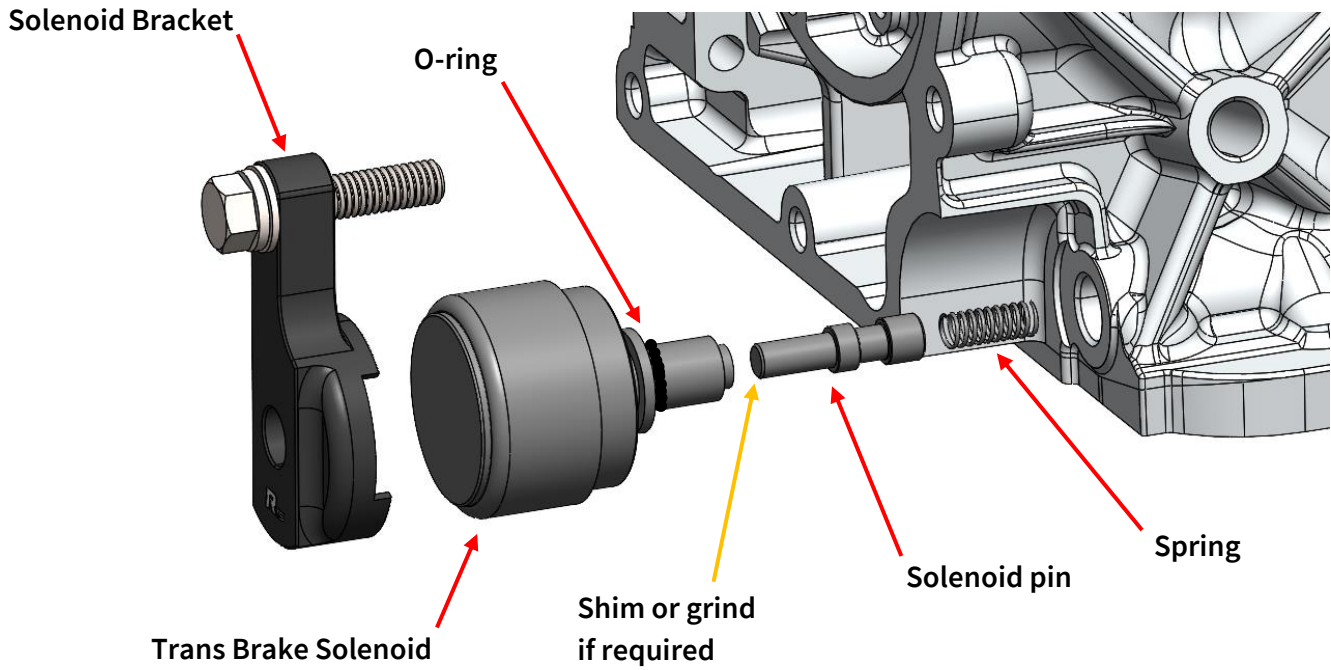

Figure 1
5. Install the brake spring, brake valve and solenoid according to figure 1.